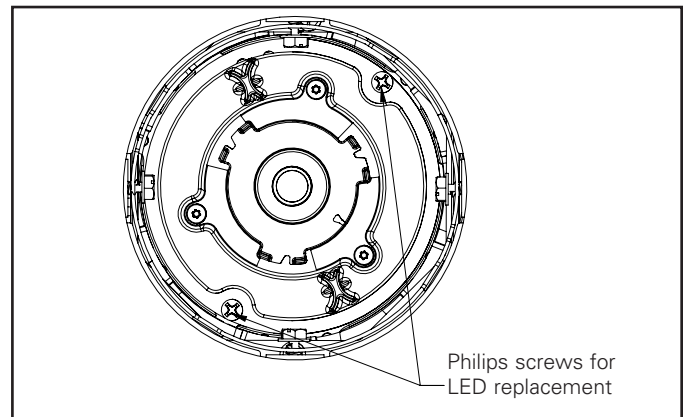

Figure 20.
5. Locate the two Phillips head screws on heat sink (Figure 20).